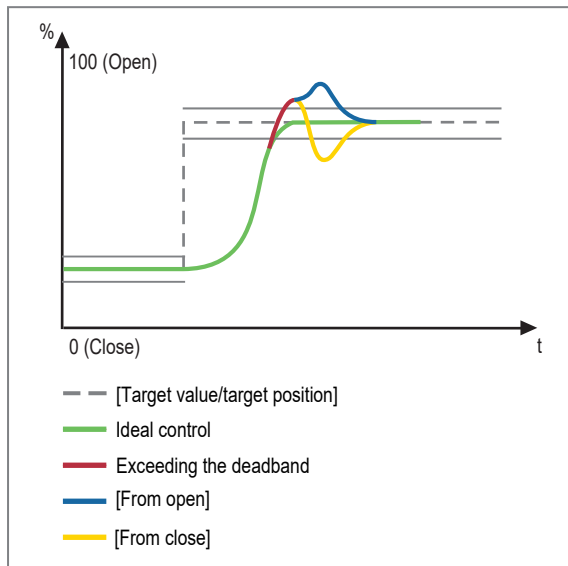

Fig. 4: Approach when the deadband is exceeded
- With the setting [From close], the device tries not to exceed the target range during control → Figure 4.